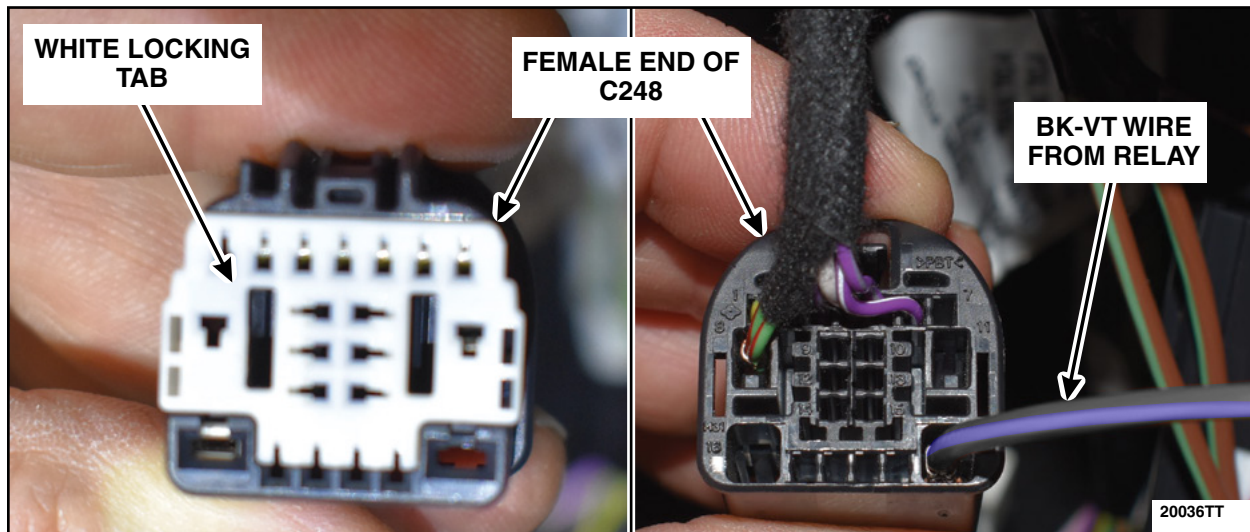

FIGURE 46
63. Remove the white locking tab from the female end of C248. Install the BK-VT wire from the relay into pin 21 for a black connector and pin 2 for a grey connector. Reinstall the white locking tab. See Figure 46.